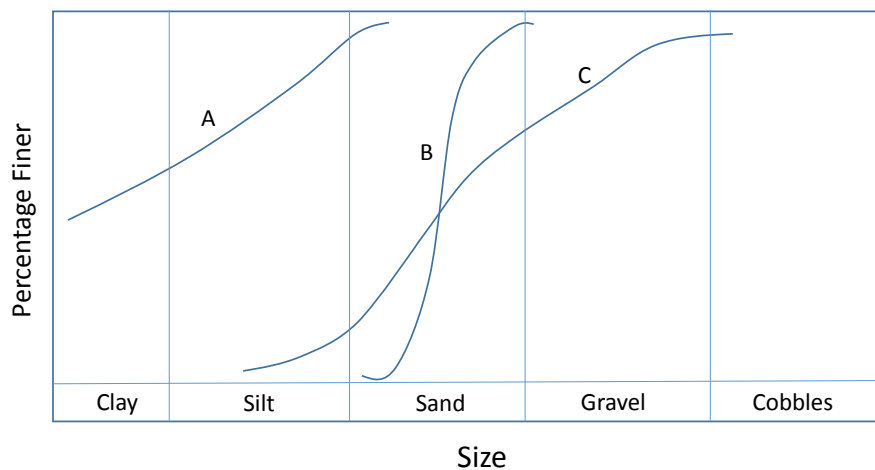

Figure 1
- i) Describe the possible soil types (A, B and C) based on the grain size distribution curves given in **Figure 1**.
- ii) Select the most problematic soil based on the GSD curves shown in **Figure 1**.